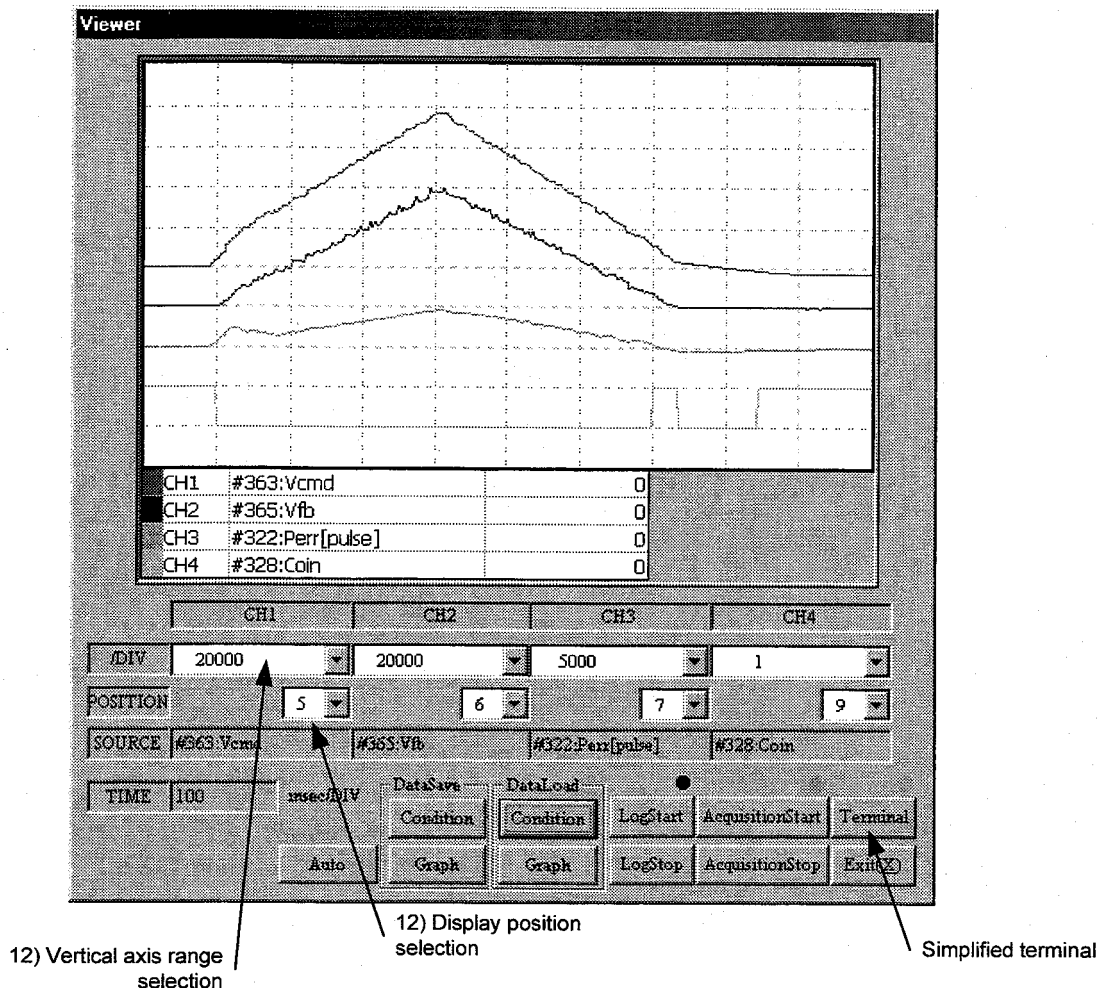

Figure 7.19 "Oscilloscope" dialog box
Click "Oscilloscope (O)" in the Waveform Measurement menu to display the Oscilloscope dialog box (see Figure 7.19).